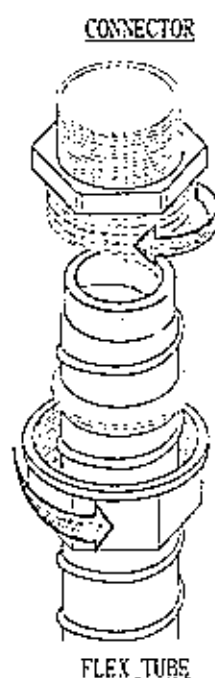

FIG. 19.4
- ⑥ Tighten the plastic nut to the connector. At this time, pass the optic fiber cable through the flex tube ahead of time so as to allow the following work to be performed easily (Fig. 19.4).